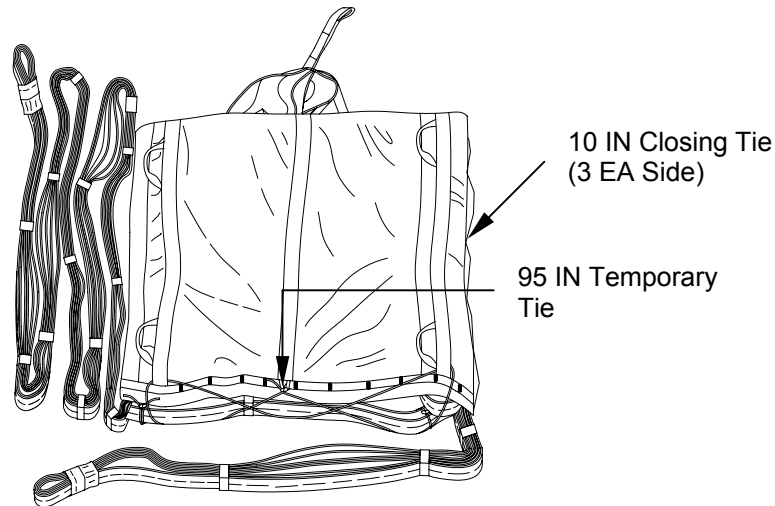

Figure 12. Temporary Handling Tie.
- g. Beginning at upper top center bridle attaching loops, pass one end of remaining 95-inch type I, ¼-inch cotton webbing bag closing tie (temporary handling tie) through top center, bottom right, top right, bottom center, top left, bottom left and back through top center loops. Remove slack from tie and secure ends with surgeon's knot and locking knot (figure 12).